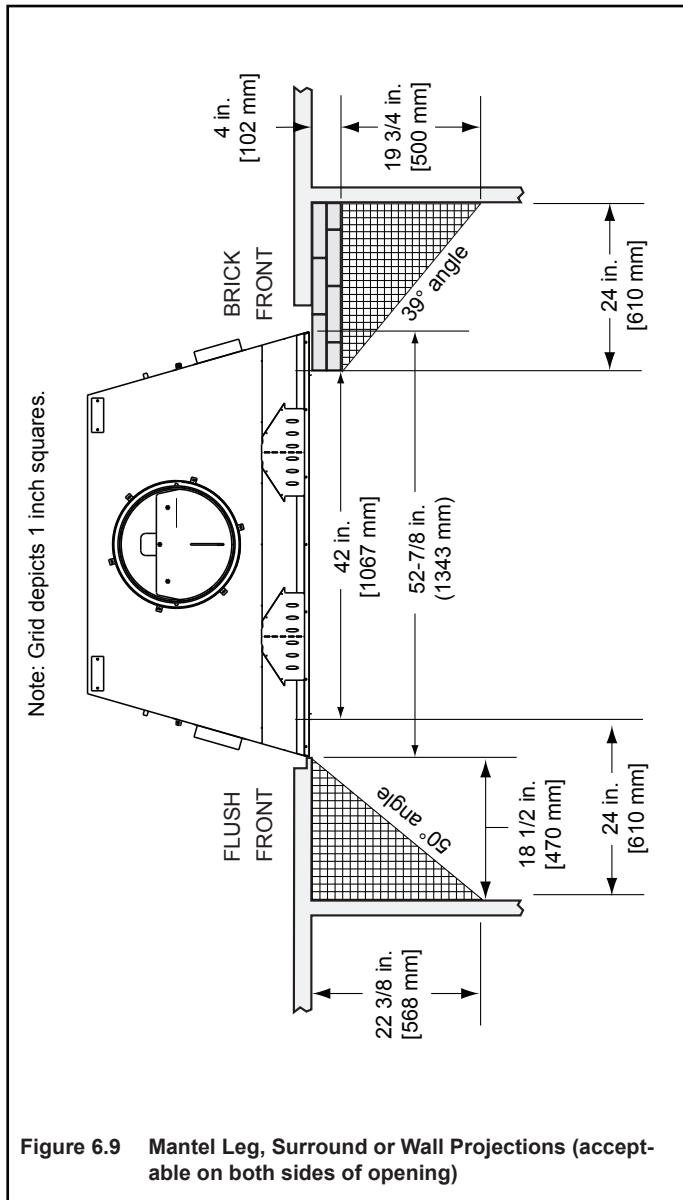

Figure 6.9 Mantel Leg, Surround or Wall Projections (acceptable on both sides of opening)
- Mantel legs, surround, stub wall, whether combustible or non-combustible, may be constructed as shown in Figure 6.9.